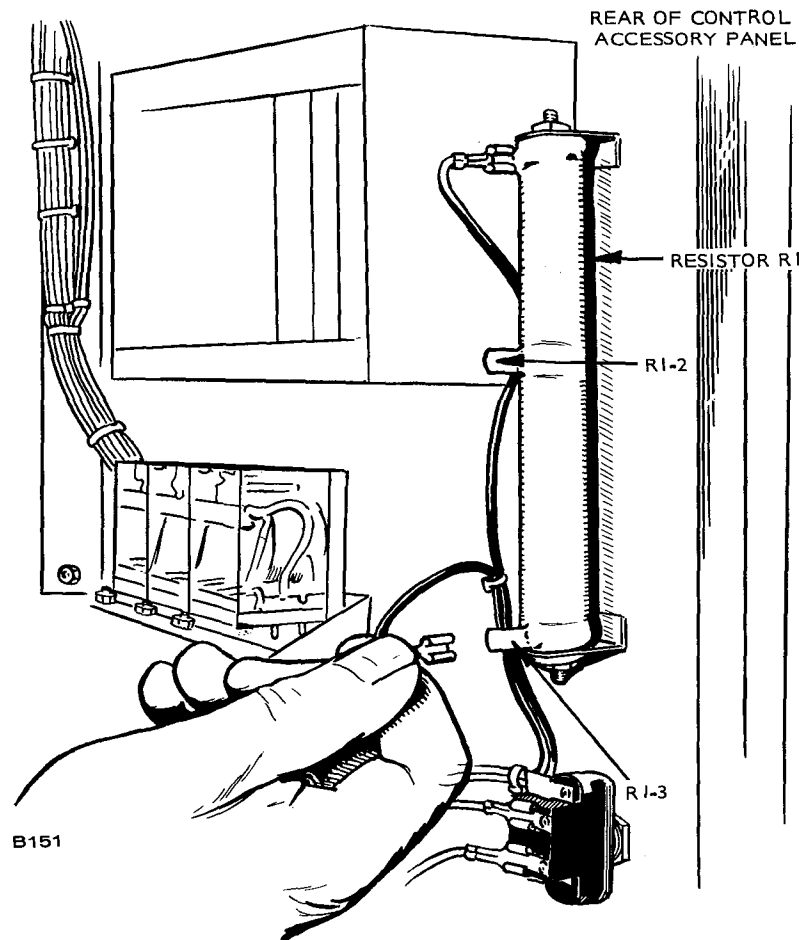

FIGURE 8. CHANGING RESISTOR R1 TAP SETTING
6. Remove the wire lead from resistor R1 terminal R1-3 and connect to terminal R1-2. See Figure 8.
6. Remove the wire lead from resistor R1 terminal R1-2 and connect to terminal R1-3. See Figure 8.